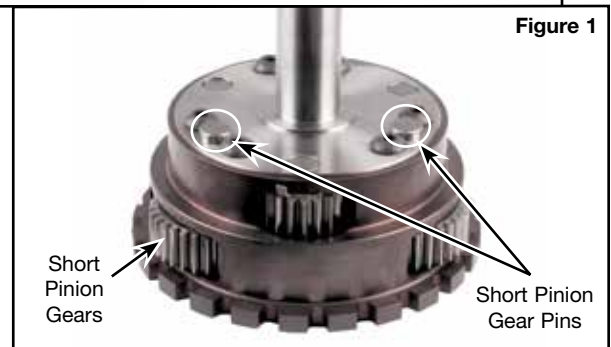

Figure 1
- Sonnax ring gear stabilizer race is aligned to three pins of the short pinion gears (**Figure 1**).
- Push three short pinion gear, pinion-pins rearward 1/8" until flush with front of carrier and slightly protruding from rear of carrier (**Figures 1 & 2**).